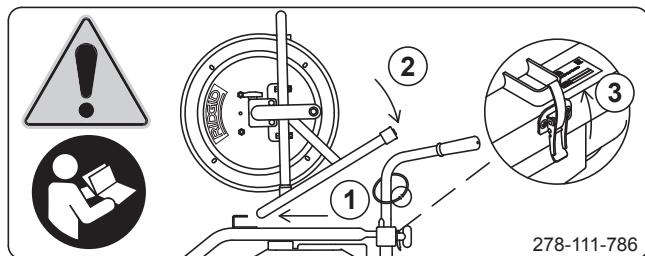

Figure 12 – KJ-3100 Hose Reel Label
For KJ-3100: Open the latch on handle assembly and remove the hose reel. For mounting the hose reel, see *Figure 12*. Place the hose reel on frame, front end first ①. Lower the reel to mount ②. Close the latch on handle assembly ③.